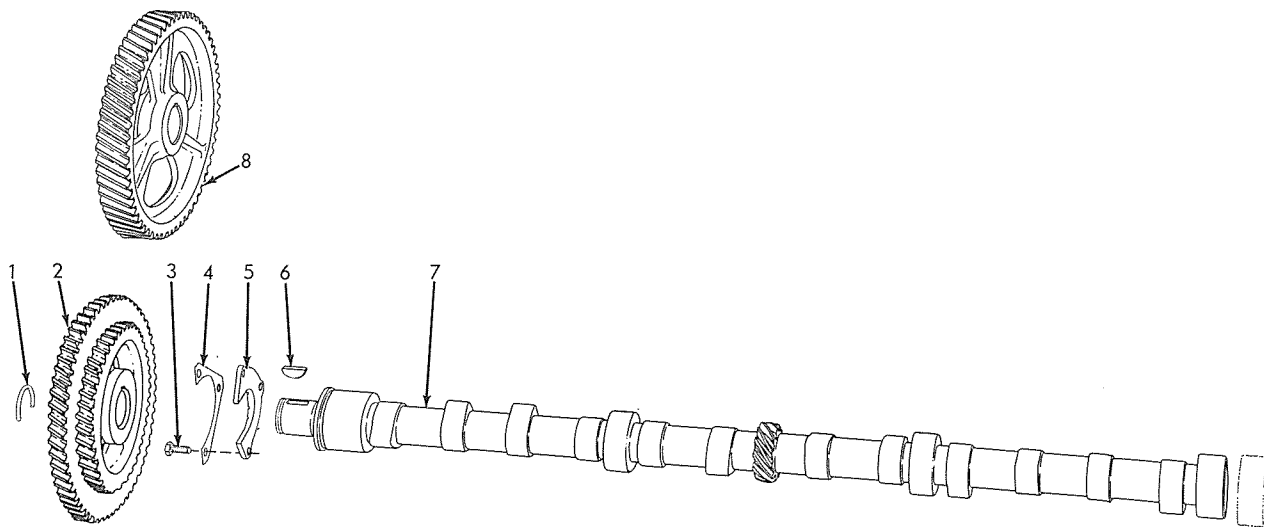
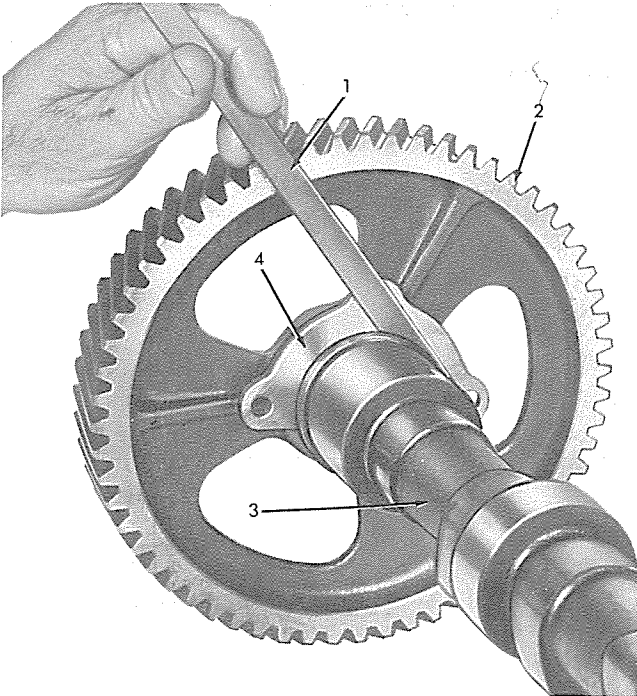

Fig. 1 — Camshaft and Camshaft Gear Details
Fig. 2 — Checking Camshaft End Play
- d. Remove capscrews, Fig. 1 (3), and locking plate (4) attaching the camshaft thrust collar (5) to the cylinder block. Using care to prevent the cams from damaging the bearings, remove the camshaft and camshaft gear as an assembly.
After gear has been installed, place camshaft thrust collar, Fig. 1 (5), on camshaft and measure clearance between thrust collar and camshaft with a feeler gauge, Fig. 2. The clearance (end play) should be .003" — .009". The specified thickness of a new thrust collar is .205" — .206"; install a new thrust collar if necessary.